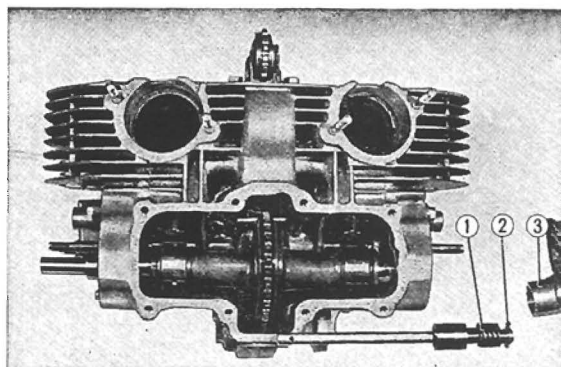

Fig. 3.36 Techometer gear box, pinion and washer
3. Assemble the pinion on the tachometer gear box. Do not forget to install the washers. (Fig. 3.36)